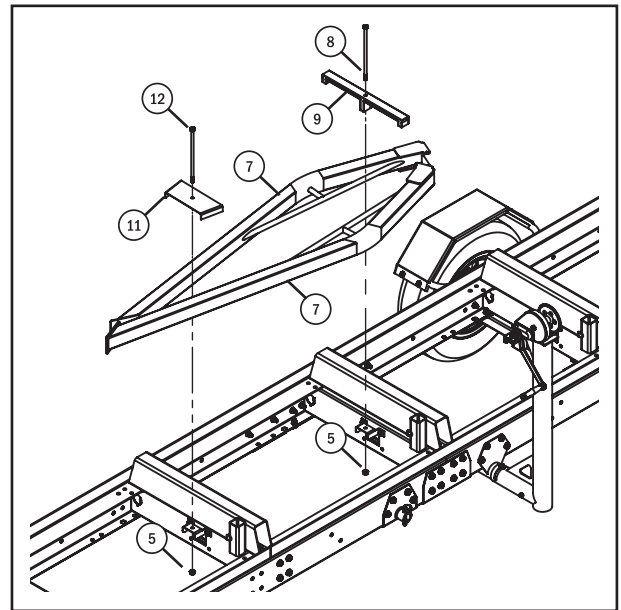

Fig. 4
Step 8: Install the Ramps into the storage/transport position. Lay the Ramps (7) on top of the log supports as shown in Fig. 4 and position the Angled Top Bracket and Long Top Bracket above the bottom brackets as shown. Use the M10 x 260 & M10 x 240 Hex Head Bolts (8 & 11) and place them through the holes on the Clamp Angle Top Plate (11) and Clamp Tee Top Plate (9), then through the holes on the Bottom Clamp plates. Secure in place using two M10 Self-Locking Flange Head Nuts (5). DO NOT OVER-TIGHTEN. Over-tightening may cause the clamps to distort. Use only enough tightening force to prevent the Ramps (7) from moving around.